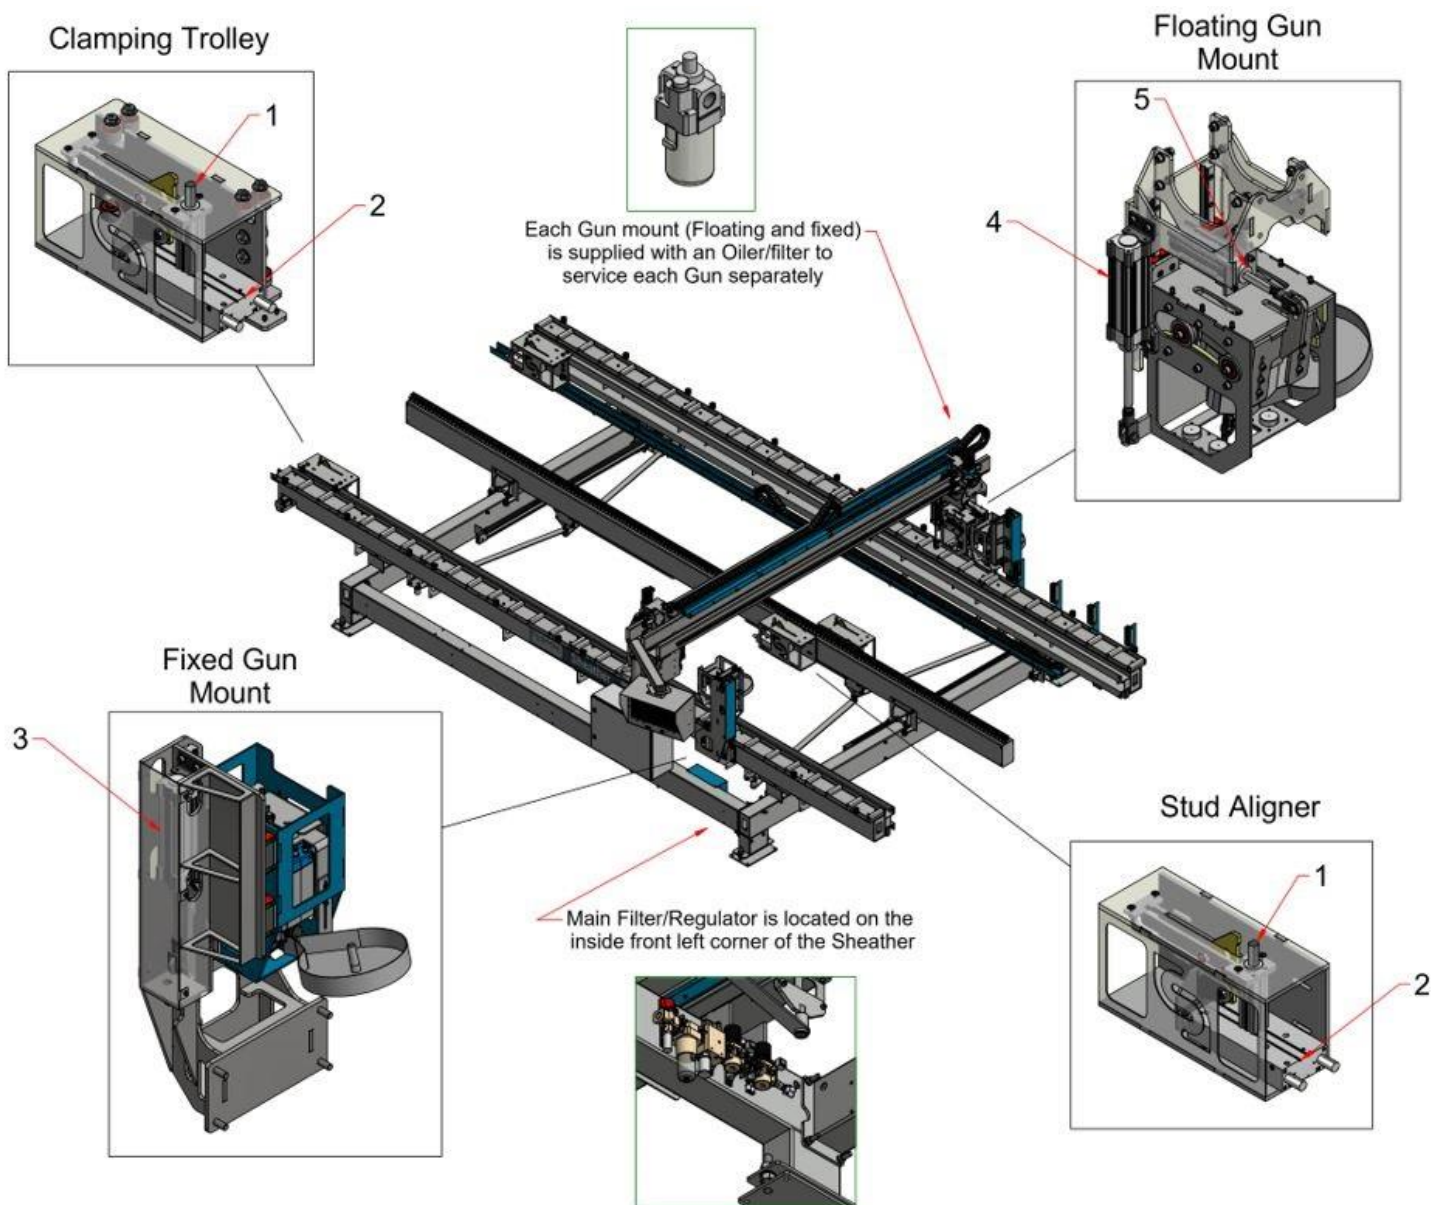
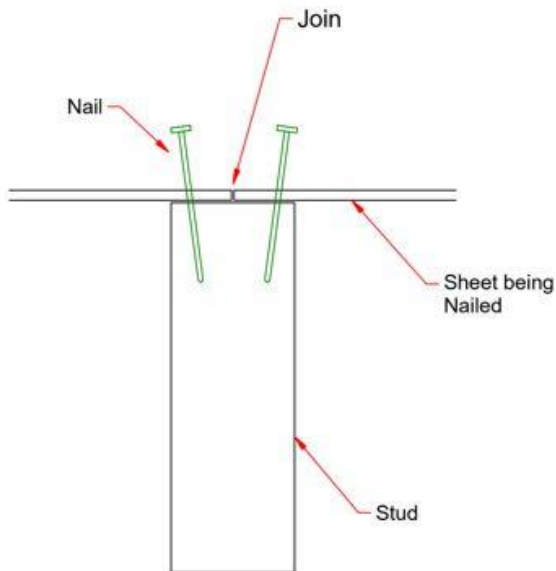

Figure 4, Wall Extruder pneumatic controls
Figure 8, Nailing a sheet join
Table 7, Pneumatic Control functions (see Figure 4)
- **If there is a join**, the cylinders connected to the guns on the Floating mounts are activated (see Figure 4). This action tilts both guns in opposite directions towards the middle of the Gun/Router beam, nailing the sheets into the stud either side of the join (as seen in Figure 8).
The Floating Gun mounts are raised and lowered by cylinders on the side of the mounts (see Figure 4). The Gun mounts move up and down in between each frame, so that the frame can be easily moved in and out underneath.